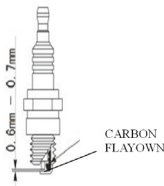

Fig.16
- Clean the excess carbon from spark plug, and re-adjust the electrode gap to 0.6mm-0.7mm.(Fig.16)